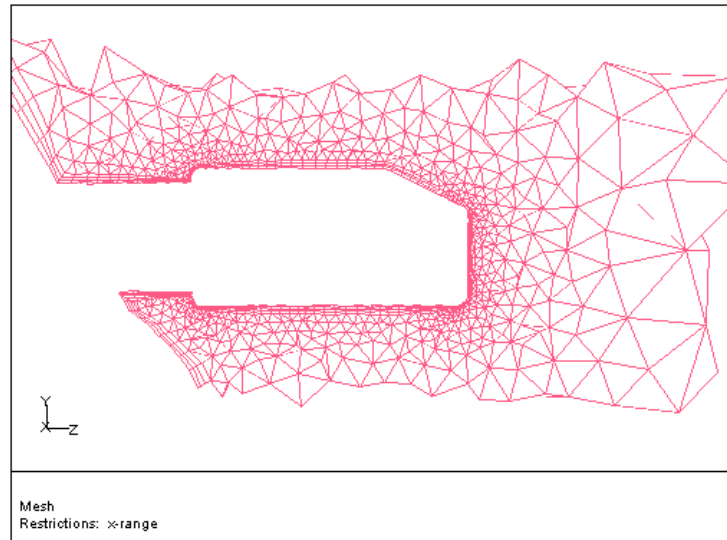

Figure 8.10: Remeshed Cavity
- v. Click Display (Figure 8.10).
*In Figure 8.10, you can see the three prism layers generated around the mirror and car. The rest of the domain is filled with tetrahedra.*
*In Figure 8.10, you can see that the mesh outside the cavity has not been modified. The mesh inside the cavity is connected in a conformal manner with the original mesh.*